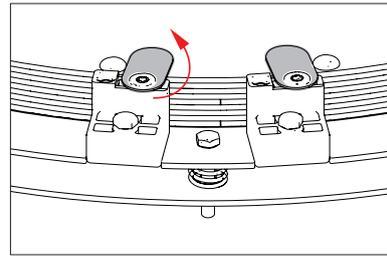

Fig. 60 Sheet metal lugs
3. Turn the sheet metal lugs of the operator in the direction of the operator (Fig. 60) and fix with the screws. The rotor will be secured that way after the transport securing devices are removed.